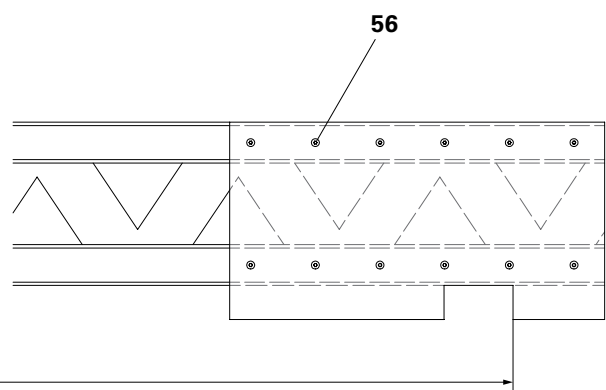

Fig. C1.05b
5. Measure dimension L_1 and screw on the Head Piece. (Fig. C1.05b)